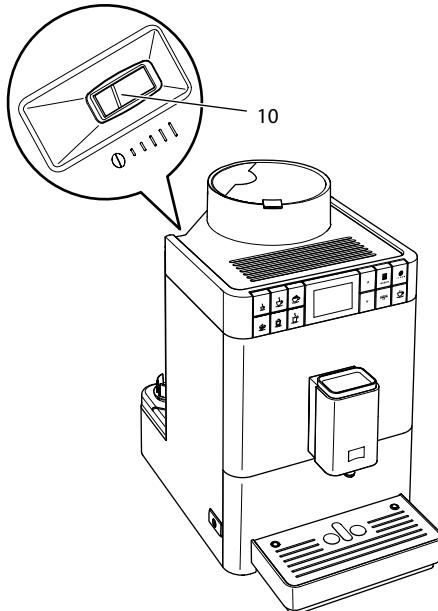

Fig. 16: Lever for setting the grinding fineness
2. Move the lever to the left or right as shown on *Fig. 16*.